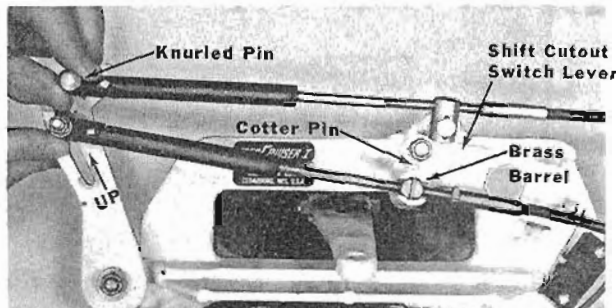

Figure 9. Locating Guide & Anchoring Cable
- h. Move end guide of stern drive shift cable up slot in shift lever until knurled pin in cable end guide of remote control shift cable can be reinstalled. (Figure 9)